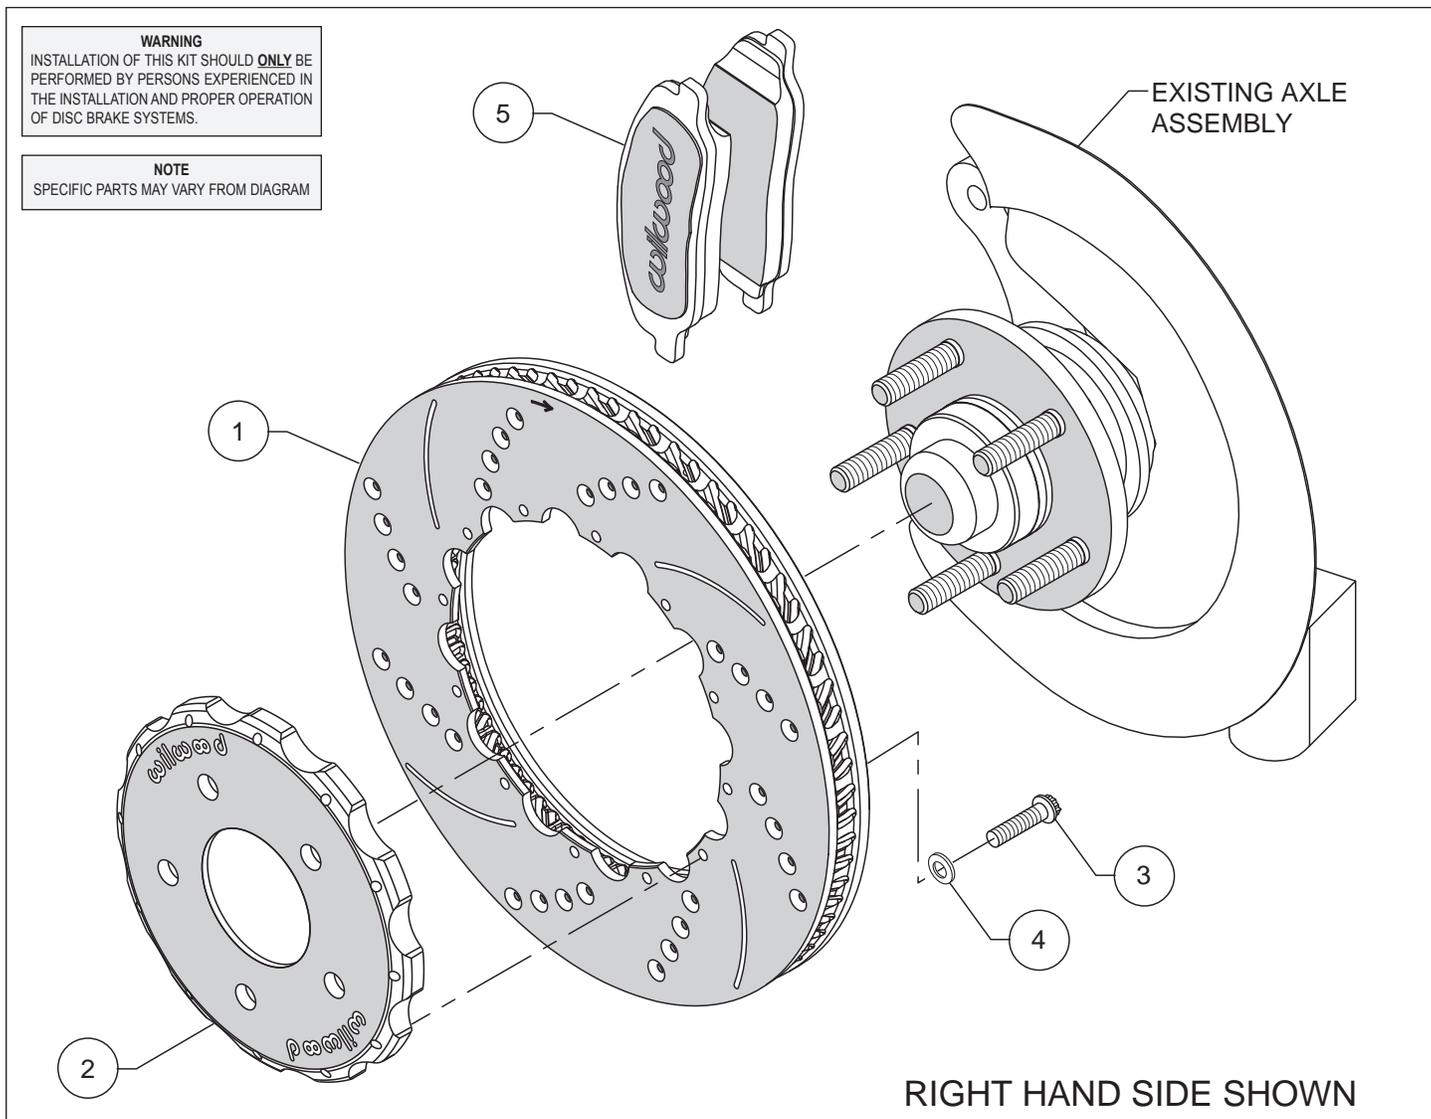
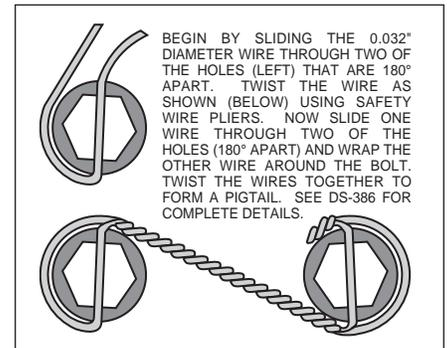

Figure 1. Typical Installation Configuration
Figure 2. Safety Wire Diagram
Assembly Instructions (numbers in parenthesis refer to the parts list and Figure 1 on the preceding page):
- Orient the rotor (1) and the hat (2) as shown in Figure 1. Attach rotor to hat using bolts (3) and washers (4). Using an alternating sequence, apply red *Loctite*[®] 271 to the threads, and torque to 155 **in-lbs**. Safety wire bolts using standard 0.032 inch diameter stainless steel safety wire as shown in Figure 2.
- Remove the OE pads from the caliper and insert the Wilwood brake pads (5) into the caliper, with the friction material facing the rotor.